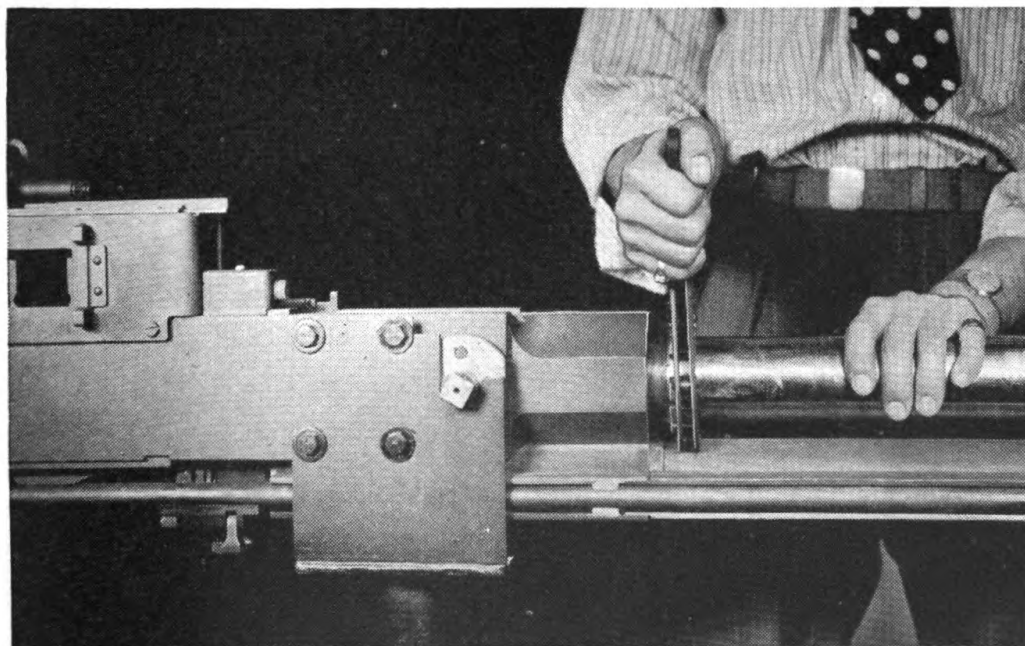

FIGURE 15.—Unscrewing trunnion block bushing.
(2) Unscrew the trunnion block bushing until the threads are disengaged from the trunnion block (fig. 15).